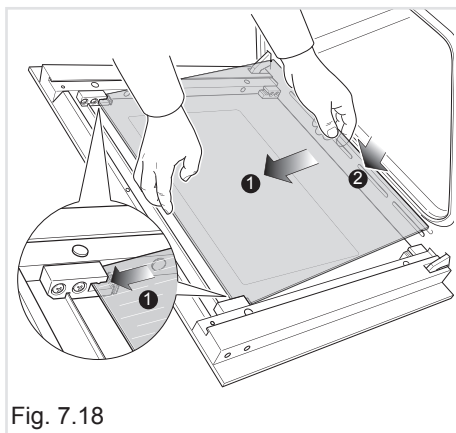
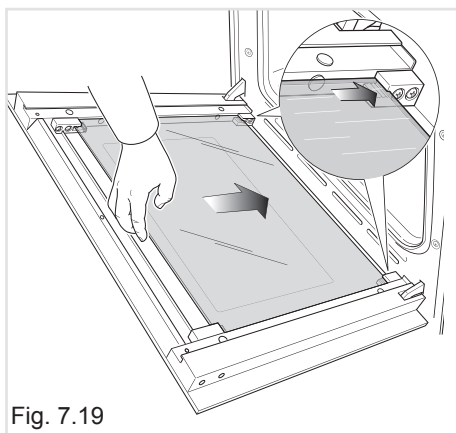

Fig. 7.18
Fig. 7.19
- Gently insert the top edge of the pane into the top clamps (arrow 1 in fig. 7.18), then lower the pane and insert the bottom edge into the bottom clamps (arrow 2 in fig. 7.18); and then slide the pane into position (fig. 7.19).